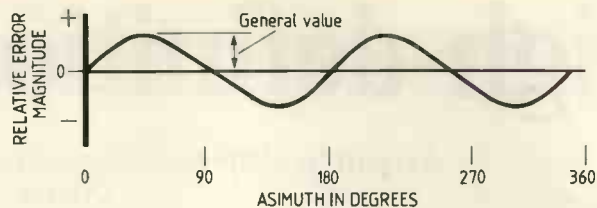
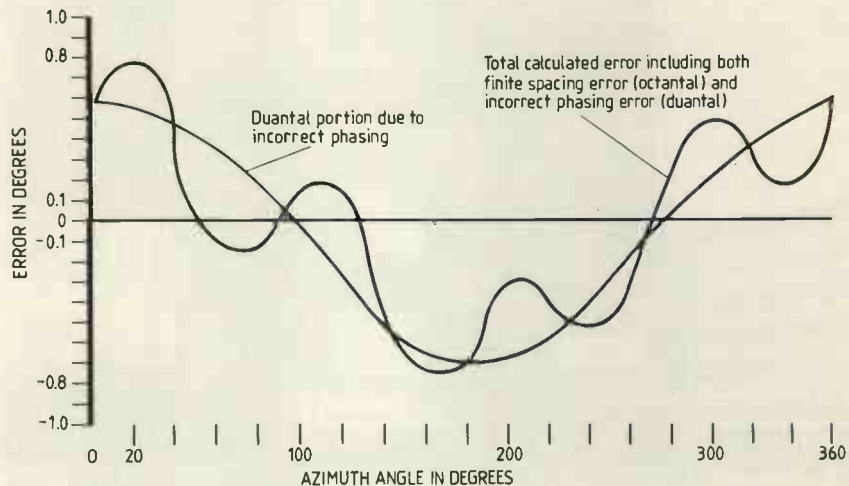

Fig.19 Quadrantal error caused by imbalance between antennae.
Fig.20. Composite error curve produced by misphasing and the effect of spacing of antennae.
Substituting values of Ω in Eq(8) gives an error curve having four peaks of discrepancy, as shown in Fig.19. This is termed a *Quadrantal* error curve. Finally, Fig. 20 illustrates a calculated error curve, which was produced for a misphasing error of 10 degrees between one antennae pair. The octantal scalloping superimposed on the duantal phasing error is the result of the finite spacing of 61 degrees between the antennae.